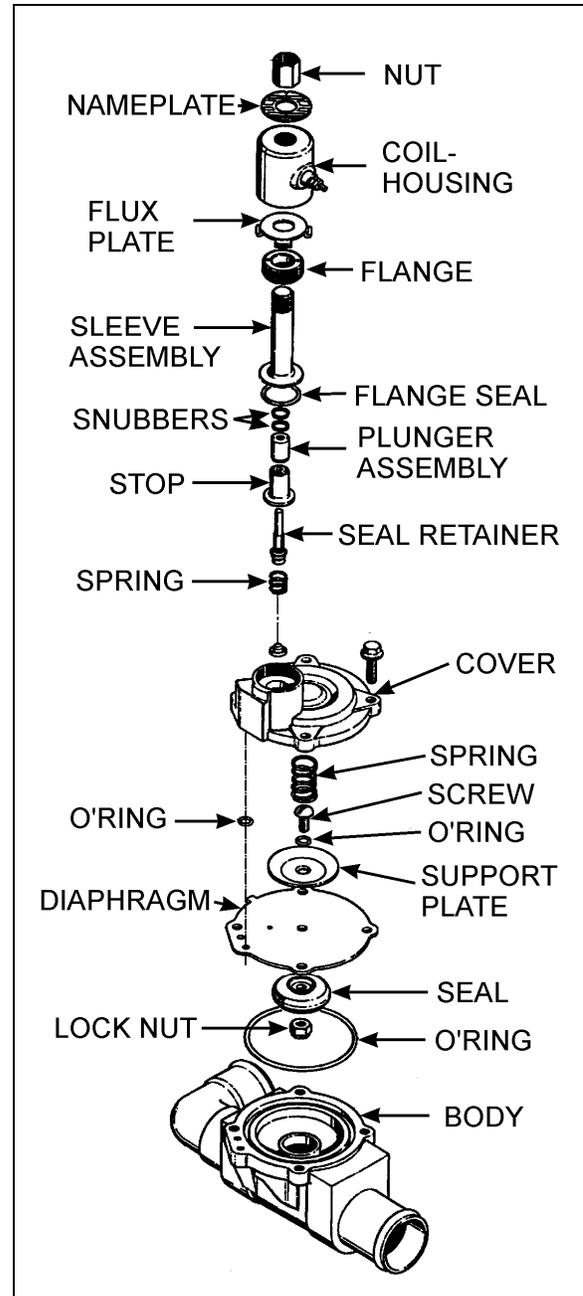

FIGURE 46: CENTRAL WATER SOLENOID VALVE 22183
2. Disconnect wires. Unscrew housing nut. The nameplate, coil housing, flux plate, wave spring and coil can be removed (Fig. 46).
- (Fig. 46). Add the nut, tighten and torque to 45-55 lbf•in (61-75 N•m).
2. Place the O-ring in the body cavity and add the diaphragm assembly, seal side facing down. Line up the diaphragm with the hole in the body. The diaphragm has three (3) holes in a row; one is a bolt hole, the middle hole is not used and the third hole is used as a passageway on the body. Make sure holes are aligned correctly. The correct position will have the diaphragm tab over the "A" port. Also ensure that O-ring is added to the passageway hole in the diaphragm.